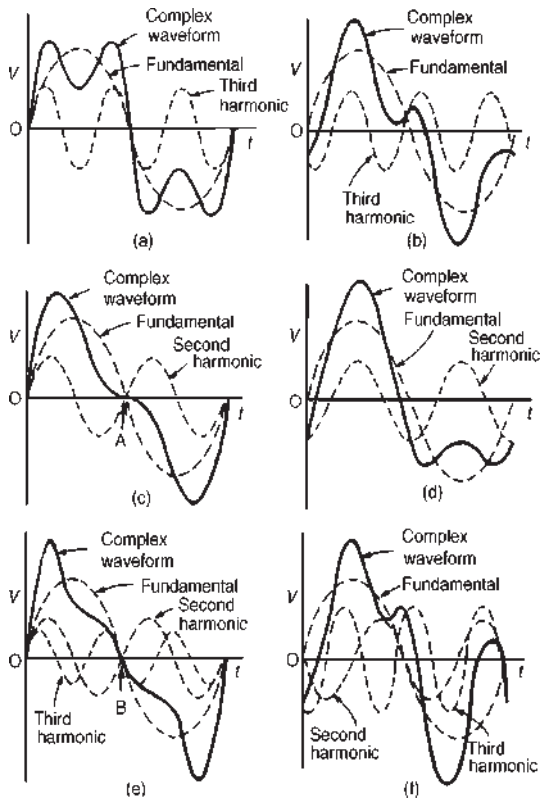

Figure 10.29
in Fig. 10.29(a), both waveforms being initially in phase with each other. If further odd harmonic waveforms of the appropriate amplitudes are added, a good approximation to a square wave results. In Fig. 10.29(b), the third harmonic is shown having an initial phase displacement from the fundamental. The positive and negative half cycles of each of the complex waveforms shown in Figs 10.29(a) and (b) are identical in shape, and this is a feature of waveforms containing the fundamental and only odd harmonics.
- (iii) A complex waveform comprising the sum of the fundamental and a second harmonic of about half the amplitude of the fundamental is shown in Fig. 10.29(c), each waveform being initially in phase with each other. If further even harmonics of appropriate amplitudes are added a good approximation to a triangular wave results. In Fig. 10.29(c), the negative cycle, if reversed, appears as a mirror image of the positive cycle about point A. In Fig. 10.29(d) the second harmonic is shown with an initial phase
- (iv) A complex waveform comprising the sum of the fundamental, a second harmonic and a third harmonic is shown in Fig. 10.29(e), each waveform being initially 'in-phase'. The negative half cycle, if reversed, appears as a mirror image of the positive cycle about point B. In Fig. 10.29(f), a complex waveform comprising the sum of the fundamental, a second harmonic and a third harmonic are shown with initial phase displacement. The positive and negative half cycles are seen to be dissimilar.
The features mentioned relative to Figs 10.29(a) to (f) make it possible to recognize the harmonics present in a complex waveform displayed on a CRO.